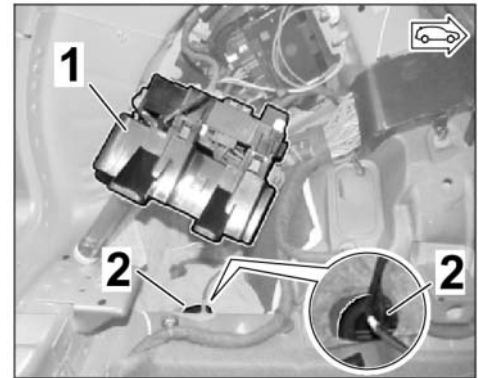

Figure 34
3.3.1 Loosen fuse box with holder in left rear boot and swivel it aside (⇒ *Figure 34*). ⇒ *Workshop Manual '978409 Loosening and securing fuse box in the luggage compartment'*